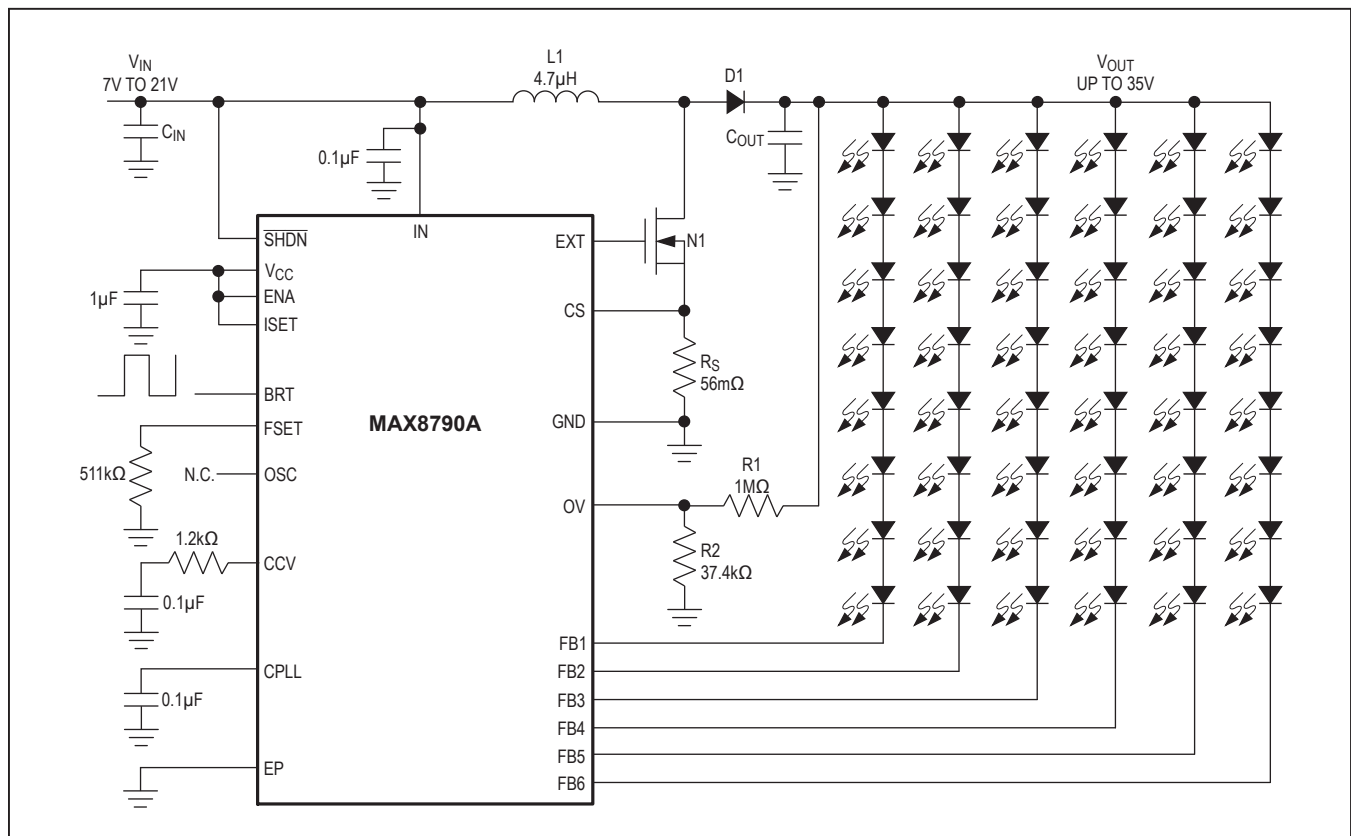

Figure 1. Typical Operating Circuit
**Electrical Characteristics (continued)**(Circuit of Figure 1.  $V_{IN} = 12V$ ,  $V_{SHDN} = V_{IN}$ ,  $CCV = 0.1\mu F$ ,  $T_A = -40^{\circ}C$  to  $+85^{\circ}C$ , unless otherwise noted.) (Note 2)
To protect the step-up converter when the load is open, or the output voltage becomes excessive for any reason, the MAX8790A features a dedicated overvoltage feedback input (OV). The OV pin is connected to the center tap of a resistive voltage-divider from the high-voltage output (see Figure 1). When the MAX8790A is powered up, if none of the LED strings on FB1–FB6 are connected to the step-up converter output, the step-up converter regulates the output voltage to  $V_{OUT} = 1.23V(1 + R1 / R2)$ . When  $V_{OV}$  exceeds 1.23V, a comparator turns off N1. The step-up converter switch is reenabled after the output voltage drops below the protection threshold.